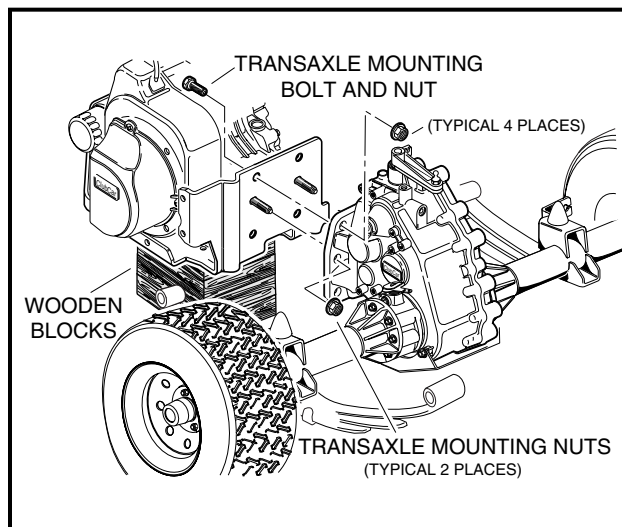

Figure 16-39 Transaxle Mounting
3. Position the transaxle mounting plate on the two mounting studs at the rear of the engine, and install the two mounting nuts (Figure 16-39, Page 16-16).